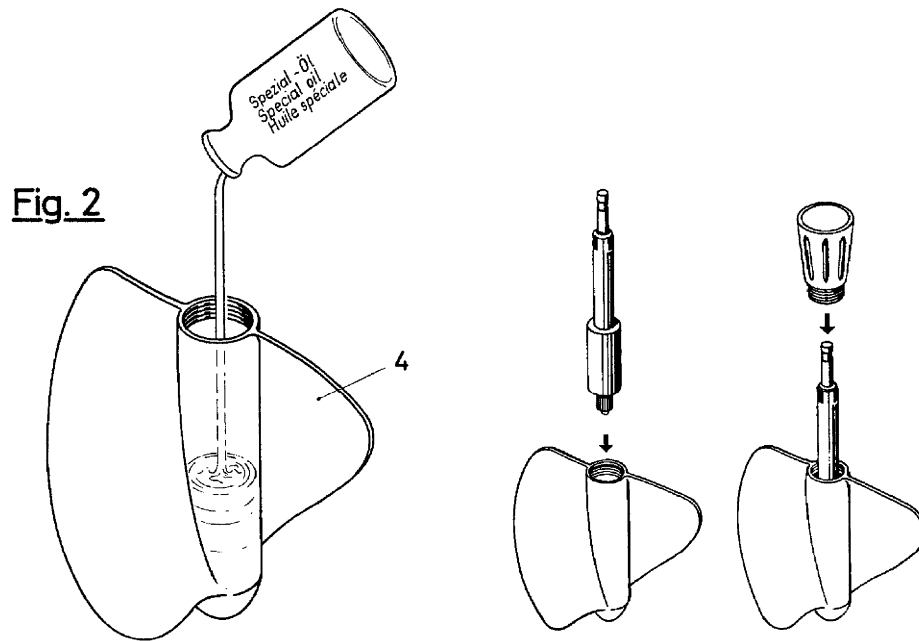

Fig. 2
1. Loosen screw (9) and remove propeller (4) along with steel shaft (8).
2. Loosen screw connection (7) with stud wrench and remove it, detach O-ring (6), and remove impulse device (5) from meter body (1).
- II. The OTT special propeller oil filled into the hub of the propeller (4) allows metering operations at different water temperatures without affecting the metering accuracy. The oil should be changed (see Fig. 2) at the end of each metering operation or whenever the propeller has not been used for a long period.